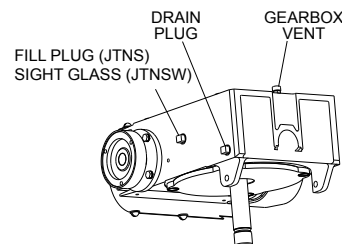

Figure 7. Gearbox Oil Plugs/Sight Glass
1. Check the gearbox oil level in both gearboxes by removing the level plug and ensuring that the oil is at the correct level. See Figure 7.
1. Check the gearbox oil in both gearboxes by looking at the sight glass on the side of gearbox. Proper oil level is at center of sight glass. See Figure 7.